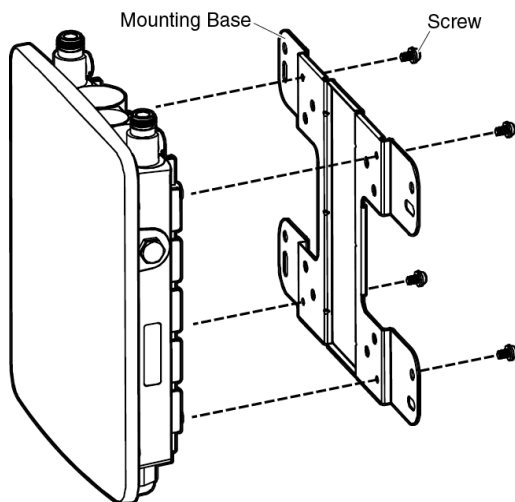

Figure 16. Attaching the Mounting Base to the Access Point
5. Attach the mounting base to the access point with the screws using a Phillips-head screwdriver, as refer to Figure 16.
5. Attach the mounting base to the access point with the screws using a Phillips-head screwdriver. Refer to Figure 16 on page 49.
2. Attach the mounting base to the access point with the screws using a Phillips-head screwdriver. Refer to Figure 16 on page 49.